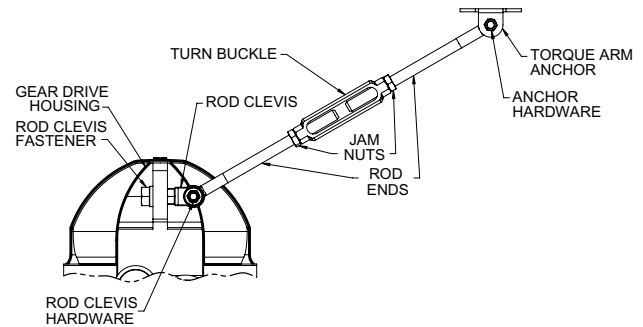

Figure 7
1. Identify parts from torque arm kit shown in Figure 7. Note: One rod end has left hand threads and the other has right hand threads. The jam nuts and turnbuckle must be matched accordingly. If it is necessary to shorten the torque arm, excess length can be cut from threaded rod ends. For corrosive environments, consideration should be given to use of an anti-seize compound on rod end threads.